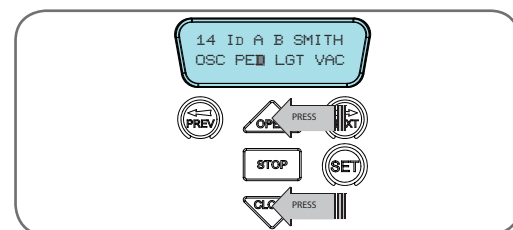

fig 25
2. Press OPEN or CLOSE to change the displayed value (Fig. 25). The available functions are shown below. Selecting OFF will prevent the opener responding to that button.